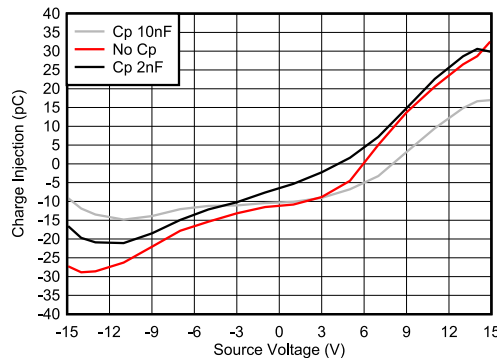

Figure 9-2. Charge Injection Compensation
The TMUX720x contains specialized architecture to reduce charge injection on the Drain (D). To further reduce charge injection in a sensitive application, a compensation capacitor (C_p) can be added on the Source (S_x). This will ensure that excess charge from the switch transition will be pushed into the compensation capacitor on the Source (S_x) instead of the Drain (D). As a general rule of thumb, C_p should be 20x larger than the equivalent load capacitance on the Drain (D). Figure 9-2 shows charge injection variation with different compensation capacitors on the Source side. This plot was captured on the TMUX7219 as part of the TMUX72xx family with a 100 pF load capacitance.